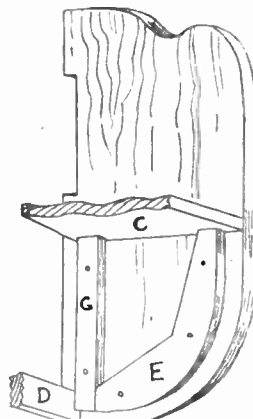

Fig. 4 Interior construction
The back edge of piece (E) is cut away anglewise to allow for room for the electric bulb fitting which is at one end only, of course. Pieces (G) are 4 $\frac{1}{2}$ ins. long and $\frac{1}{2}$ in. wide, and these and the pieces (E) are glued and screwed to the ends as shown in the sectional diagram at Fig. 4.